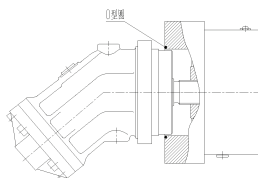

Figure 6 : Flange O ring mounting
5. Put O ring into the O ring groove of valve block oil port as figure 6